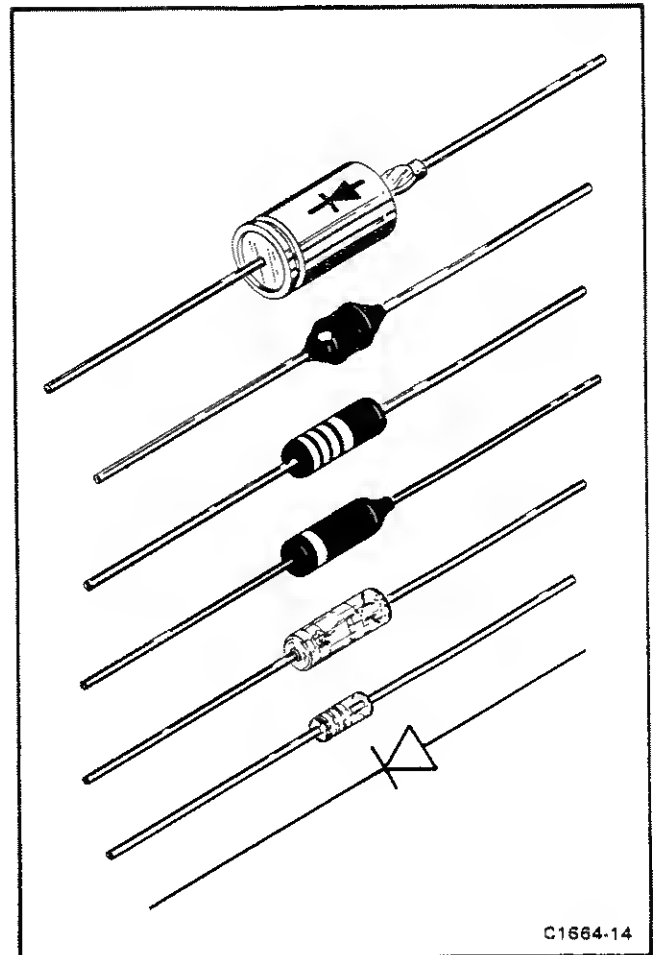

Fig. 6-3. Diode polarity markings.
**Diode Code.** The cathode of each glass encased diode is indicated by a stripe, a series of stripes, or a dot. Some diodes have a diode symbol printed on one side. Fig. 6-3 illustrates diode types and polarity markings that are used in the instrument.